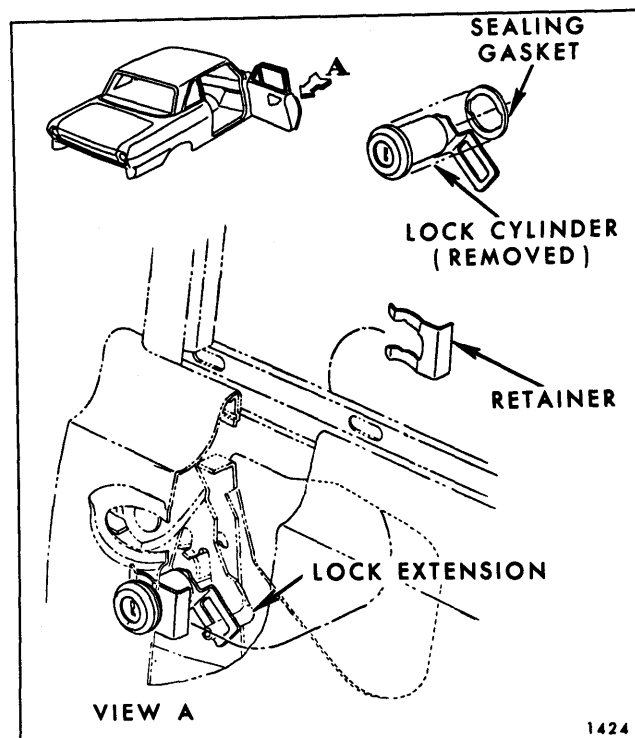

Fig. 6-59—Front Door Lock Cylinder Removal - All Styles
2. With a screwdriver or other comparable tool, slide lock cylinder retaining clip (on door outer panel) out of engagement and remove lock cylinder from door (Fig. 6-59).